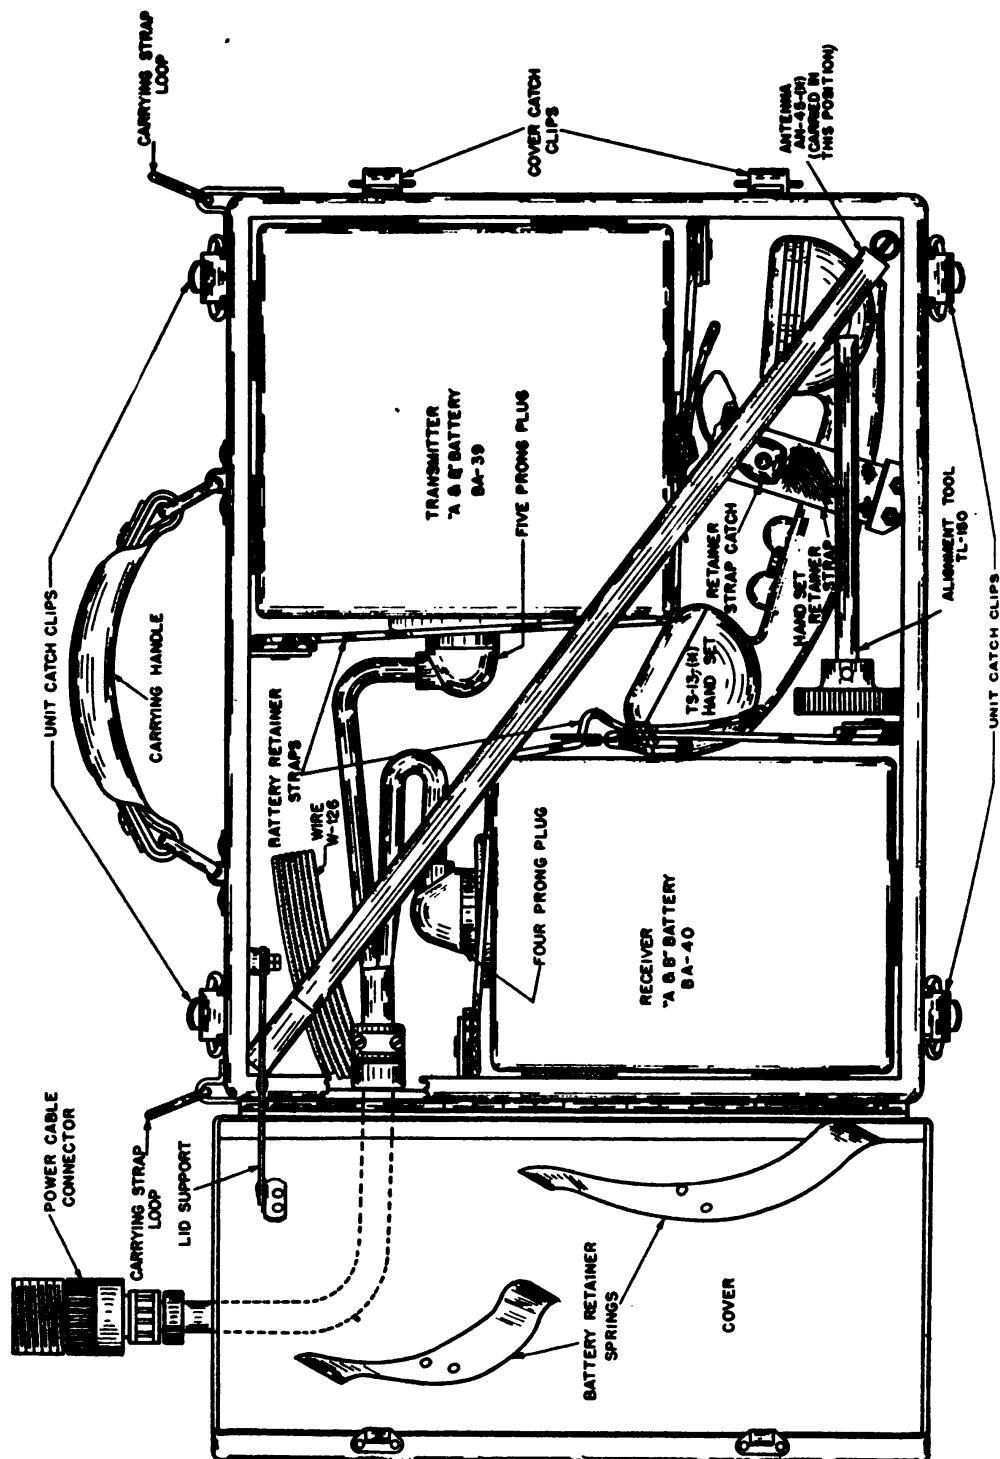

Figure 3. Case CS-79-(\*), Layout
(1) Collapsible Antenna AN-45-(\*) is provided for use with the radio receiver and transmitter when it is being operated as a portable unit. It may be quickly screwed to the antenna terminal which is located on the rear of the receiver and transmitter case. This antenna is stored in battery Case CS-79-(\*). (See Figure 3.)
(2) For vehicular service, a sectional type mast antenna is provided. When not in service the sections are stored in Roll BG-56-(\*). Mast Base MP-48-(\*) is designed so that it will bend without
Case CS-79-(\*) contains Batteries BA-39 and BA-40 that supply power for Radio Receiver and Transmitter BC-620-(\*) for portable operation. The batteries are held securely in place with straps and space is provided for carrying the handset, alignment tool, antenna, and coil of insulated wire for use as an antenna. (See Figure 3.) Figure 1 illustrates Case CS-79-(\*) and Radio Receiver and Transmitter BC-620-(\*) fastened together with the catch clips provided.
Open battery case CS-79-(\*) and install Batteries BA-39 and BA-40. (See Figure 3.) Tighten the webbed straps to hold the batteries securely. Place one telephone Handset TS-13-(\*), Antenna AN-45-(\*), and Alignment Tool TL-150 in position. (See Figure 3.) Also put in the coil of Wire W-29. Close the case and fasten the catch clips. The unit is now ready for service.